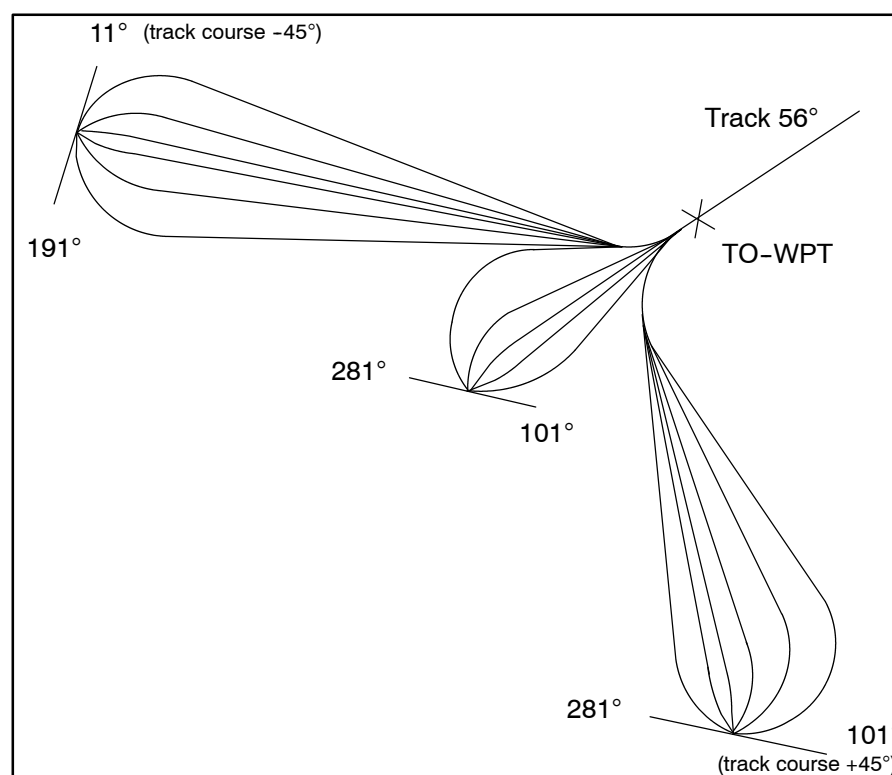
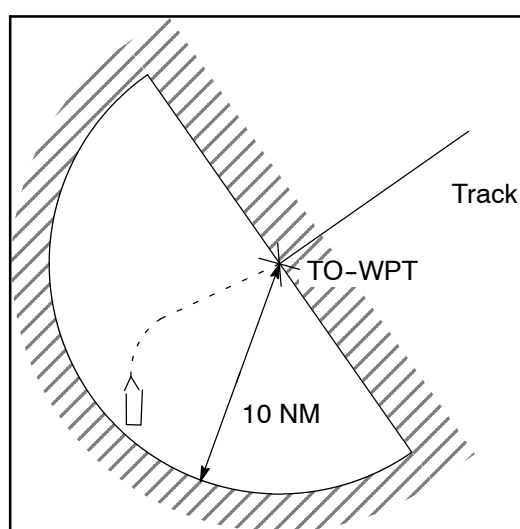
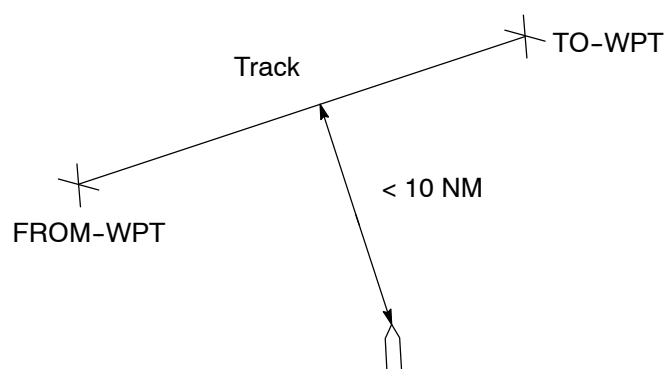

Fig. 1-10 Preset heading in relation to track course of preplanned track
Fig. 1-11 Initial position
Fig. 1-12 GO-TO-Track
GO-TO-Waypoint manoeuvre (see Fig. 1-10 and Fig. 1-11)	GO-TO-Track manoeuvre (see Fig. 1-12)
- 1) The TO-WPT has to be located in free water (see Fig. 1-10 and Fig. 1-11).
GO-TO-Track manoeuvre (see Fig. 1-12)